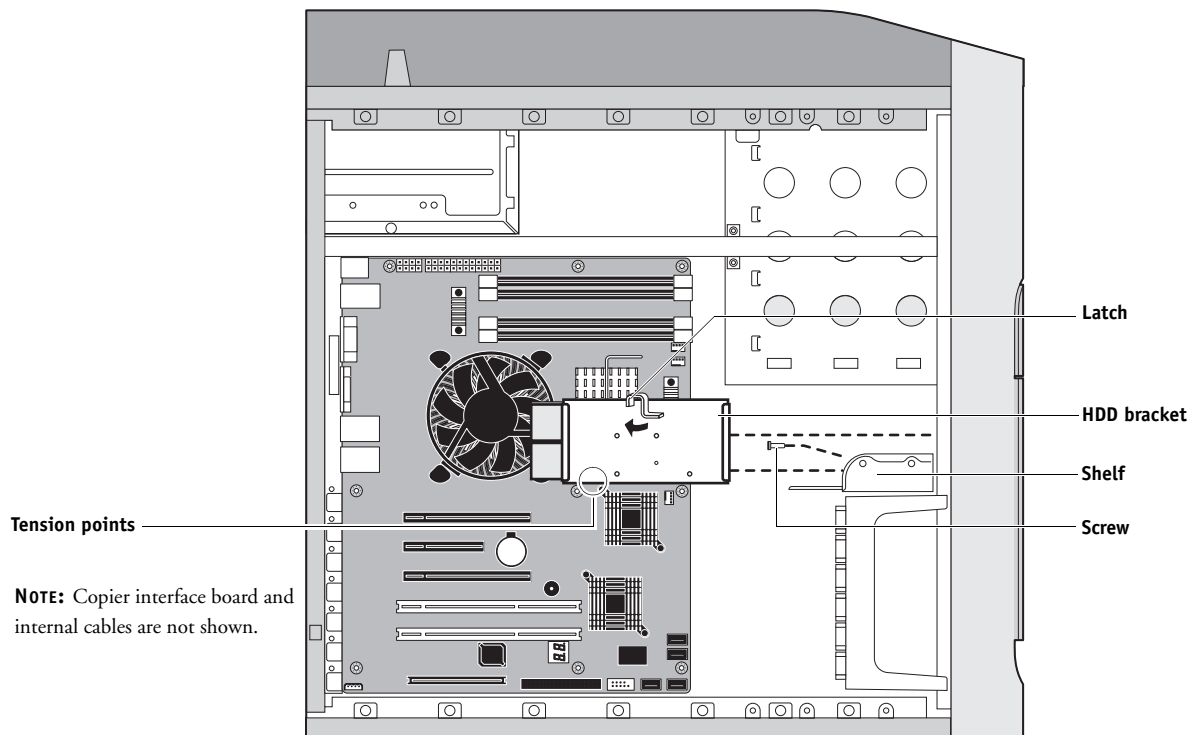

FIGURE 34: Removing/replacing the HDD bracket
6. Slide the HDD bracket off the shelf and lift it out of the chassis (see Figure 34).